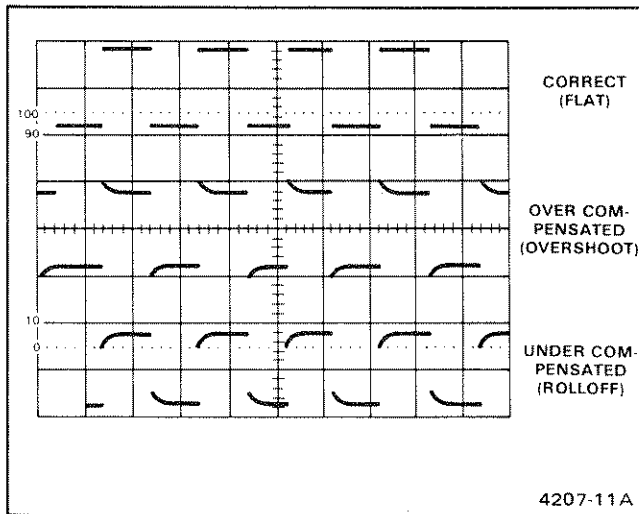

Figure 5-1. Probe compensation.
5. Check the square-wave signal for overshoot and rolloff (see Figure 5-1). If necessary, use the special adjustment tool supplied in the probe accessory package to adjust the low-frequency compensation for a square front corner on the square wave.